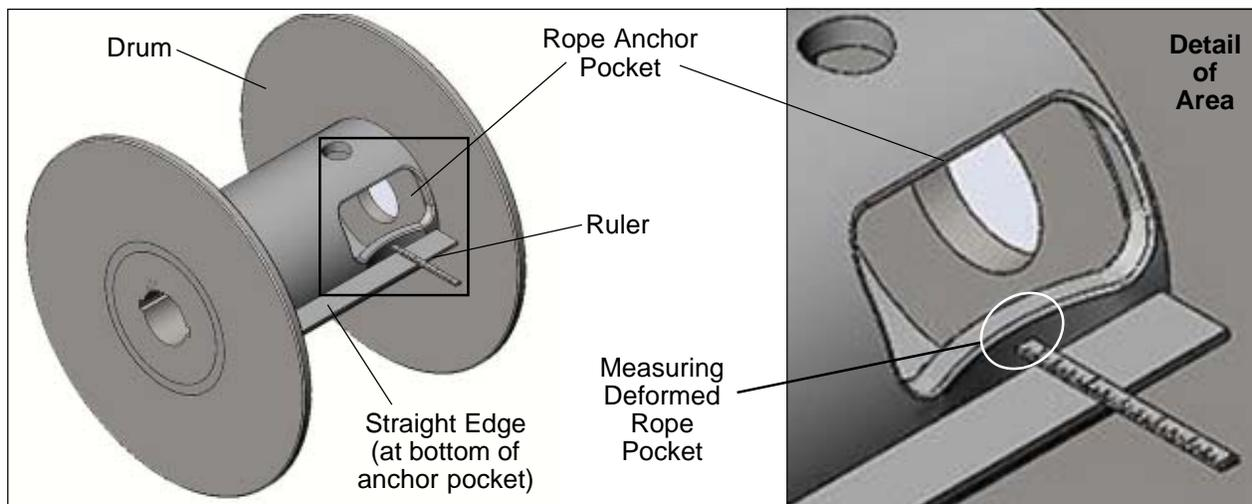

Figure 3 — Measuring Drum Deformation
5. Use a straight edge and place it across the drum at the bottom of the rope anchor pocket to see if the edge of the pocket is bent in (refer to Figure 3).